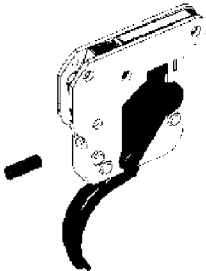

Figure 12
13. Insert the **engagement screw** into the rear hole of the trigger housing as shown in Figure 12. Use permanent Loctite (660) to secure the screw( DICO cement after Final set).